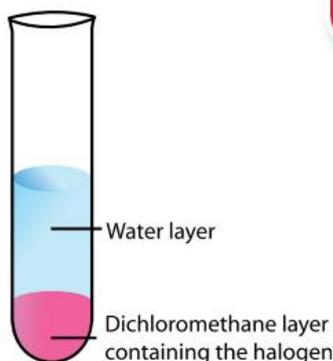

Figure 20.1
3. Place about 2 mL of bromine water in a test tube, add 1 mL of dichloromethane, stopper and shake vigorously for a few seconds. Allow the liquid layers to separate, as shown in figure 20.1. Record the colour of the dichloromethane layer (the bottom layer), which contains the halogen molecule, bromine. Keep the test tube sample for comparison in part B.